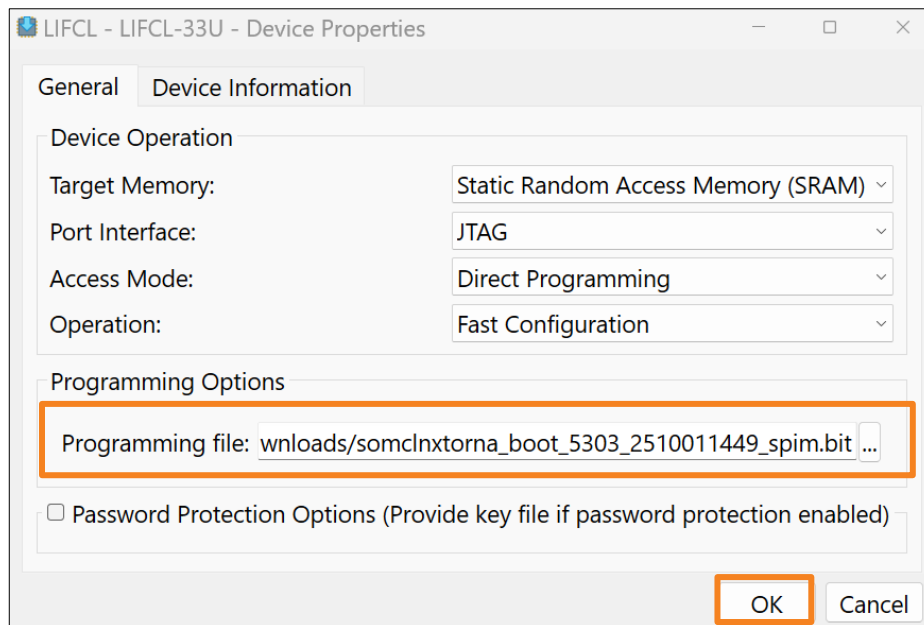

Figure 6.5. Radiant Programmer – Device Properties
- Double-click the **Operation** field. The **Device Properties** window opens. Select the programming file that is in .bit format. Click **OK** (Figure 6.5).